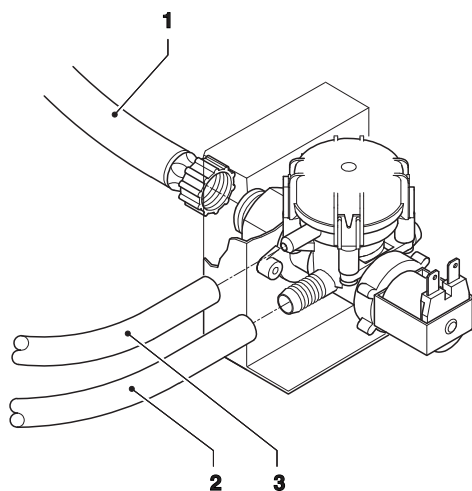

Fig. 17
Connect the water mains to the  $\frac{3}{4}$ " gas connection of the water inlet solenoid valve (see Fig. 17) with a pipe having minimum internal diameter of 6 mm (also available as a kit), suitable for supporting the mains pressure and of a type suitable for food products.
The water inlet solenoid valve (see Fig. 17) is equipped with an anti-flooding device which allows the mechanical blocking of the input of water following a malfunction of the solenoid valve or of the control system of the level of water in the boiler.
- loosen the connection which fixes the input pipe of the solenoid valve for lowering the residual water pressure and tighten it again (see Fig. 17);